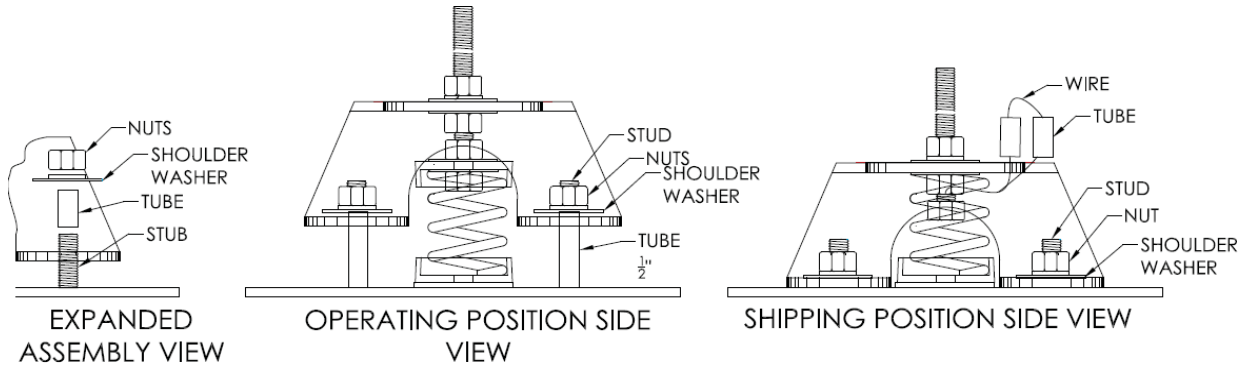

Figure 12 Fan Assembly
1. Inspect fan and drive assembly (see Fig. 12). Adjust belt (if applicable) to appropriate tension and alignment.